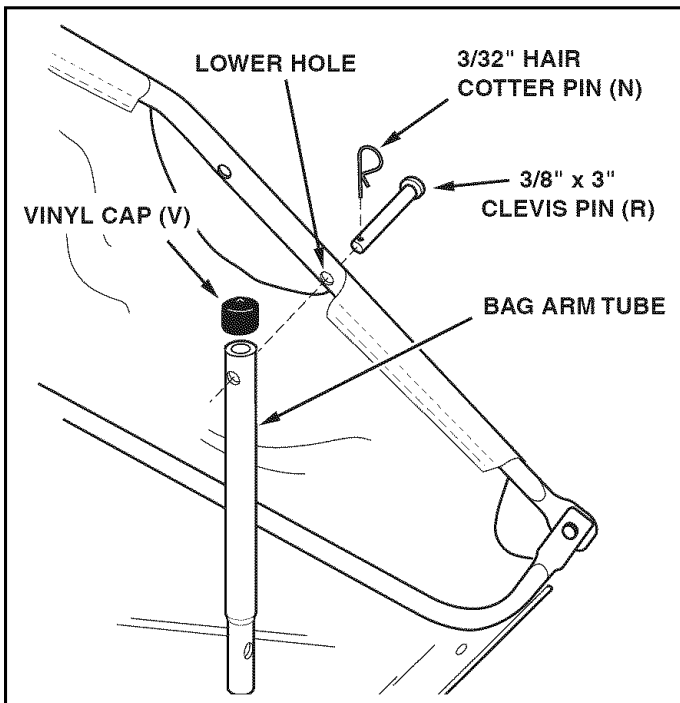

FIGURE 19
STEP 15: (FIGURE 19)
- Insert a 3/8" x 3" clevis pin (R) through the lower hole in each upper hopper side tube. Next assemble a bag arm tube onto each clevis pin and secure it with a 3/32" hair cotter pin (N).
- Assemble a vinyl cap (V) onto the end of each bag arm tube.